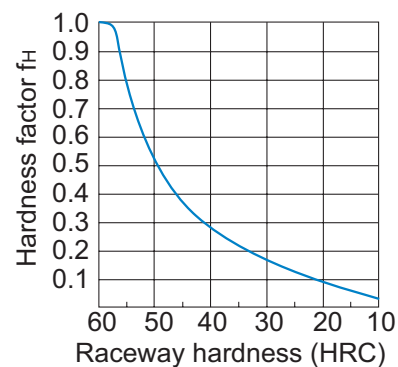

Fig.1 Hardness Factor (fH)
- fH : Hardness factor (see Fig.1)